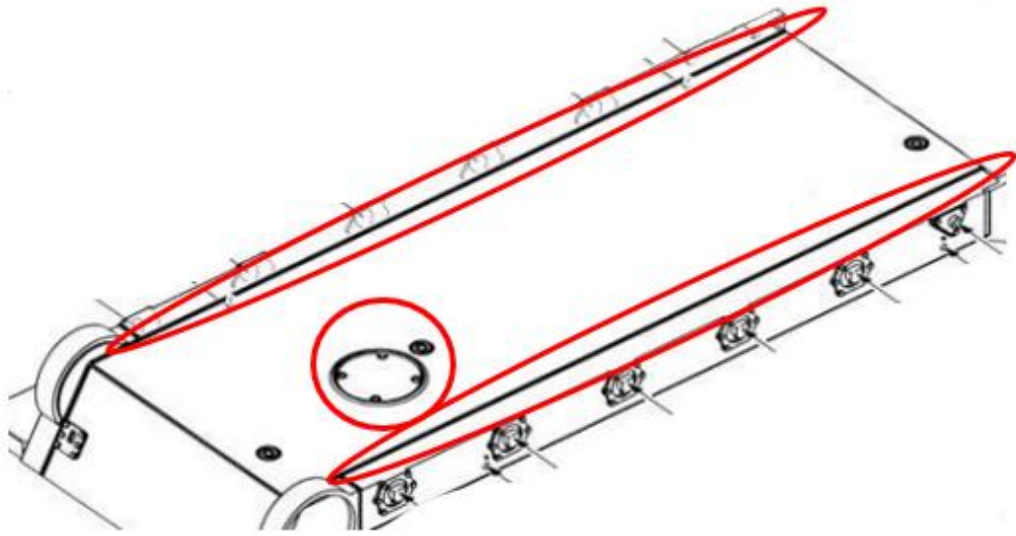

Figure: 1
2. Step 2 of the kit's instructions. Remove the raised protrusions on the belly of the kit. The engine access and two lines running down each side as in the Figure 1.
2. Step 2 of the kit's instructions. Do not add parts L4 and L15. Remove the raised protrusions on the belly of the kit. The engine access and two lines running down each side as in the Figure 1.